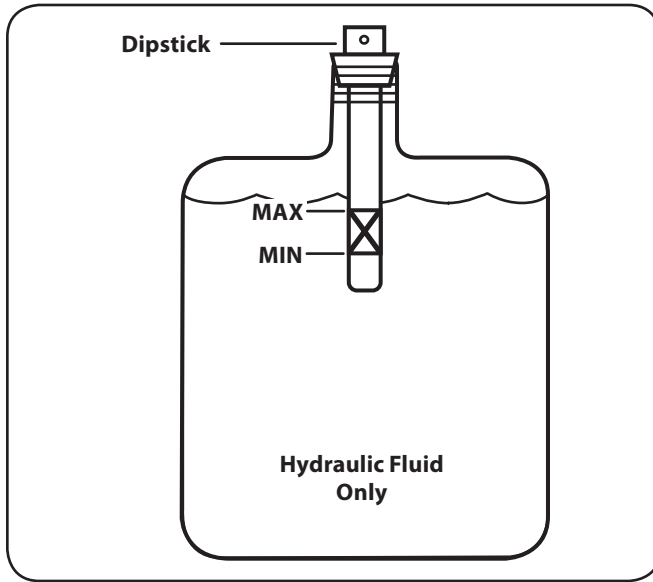

Figure 6-3
11. If necessary Refill the reservoir within range marked on the dipstick. See Fig. 6-3.